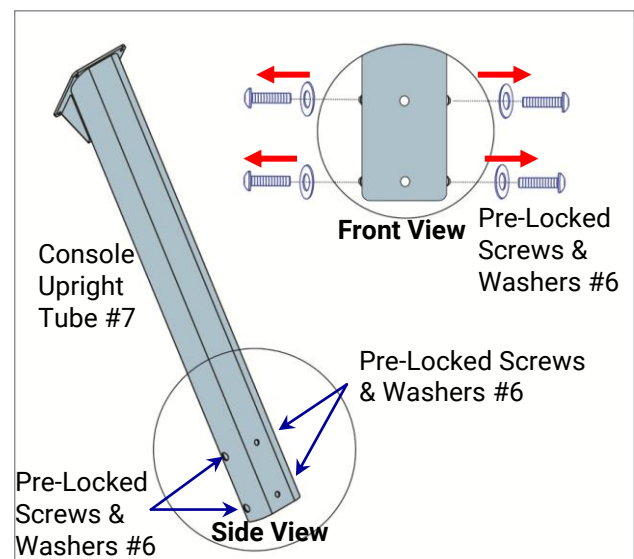

Fig 2.5-4C
3) Unscrew the (4) **Pre-Locked Screws & Washers #6** on the **Console Upright Tube #7** with the provided 5mm Allen wrench. (Fig 2.5-4C)